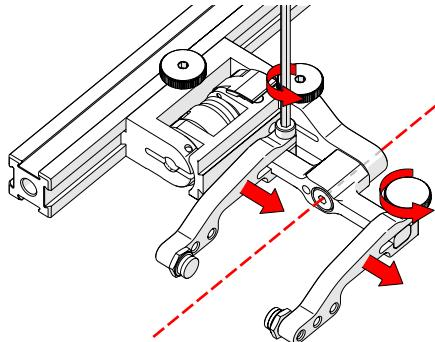

Fig. 200 - Adjust probe holder arms
5. Loosen the probe holder arm adjustment knob (Fig. 200) and remove outer probe holder arm from yoke.
6. Adjust inner probe holder arm as required to best centre the probe on the yoke's pivot axis (Fig. 200).
**TIP:** The probe holder yoke can accommodate many different probe and wedge sizes of varying widths. It is best to centre the wedge with the yoke's pivot axis to reduce wedge tipping when scanning. Position the inner probe holder arm accordingly with the centre of the yoke (Fig. 200).